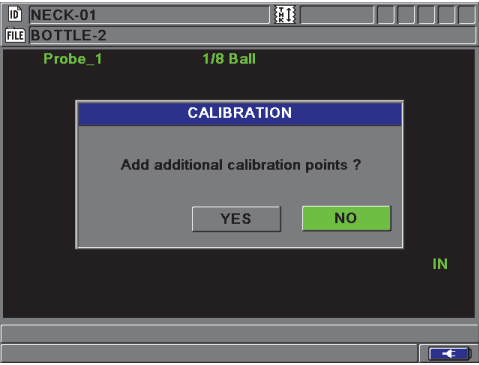

Figure 4-10 Adding additional calibration points
7. **Additional (multipoint) calibration points:** The instrument will ask if you would like to add additional calibration points (see Figure 4-10 on page 82). Selecting **NO** will complete the standard (basic) calibration, while selecting **YES** (multipoint) will allow the user to add up to eight additional calibration points.